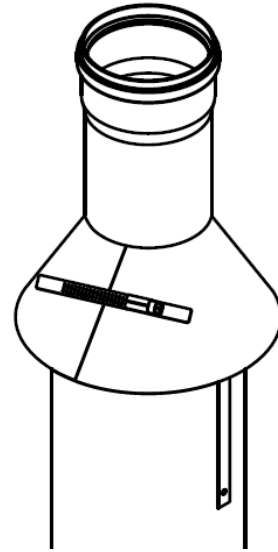

Figure 27
5. Secure the B-vent Relining Support Collar (BVSC) around the UV rated termination pipe below the female tooled end (Fig 27). Adjust total length of Polyflue system as necessary before anchoring the Support Collar to the Bvent outer wall (via 1/4" (6mm) L sheet metal screws by others) and before securing the bottom Wall Strap (WS) to some wood blocking as needed.